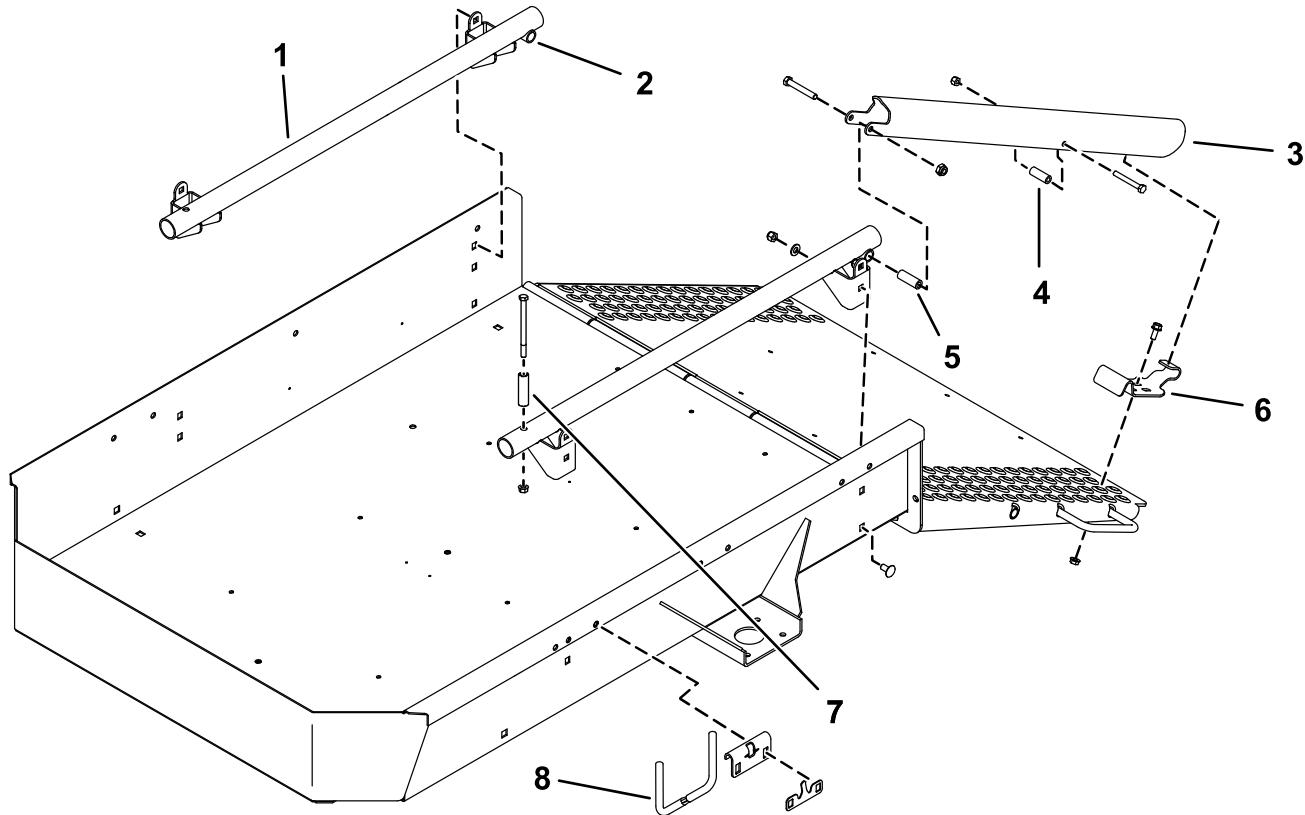
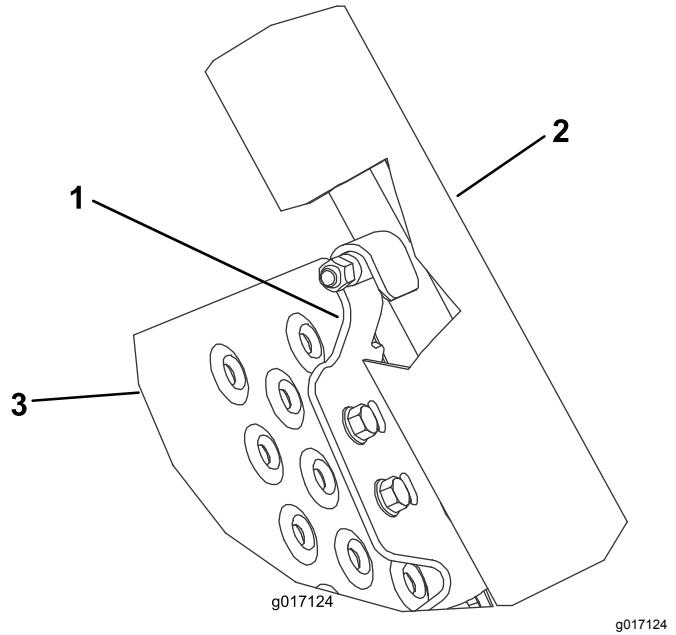

Figure 2
Figure 4
5. Secure the tube assembly mounting brackets to the square holes in each side of the trailer with 4 carriage bolts, flat washers and locknuts (Figure 2). Position the tube assemblies so that the cross tubes are to the rear.
6. Mount a load ramp to the rear of each tube assembly with a 3/6 x 2-1/2 inch capscrew, spacer, and locknut (Figure 2).
7. Install a hex-head screw through each of the center holes in the load ramps and through the 2 rubber tubes (Figure 4).
8. Position a locking bracket onto each side of the ramp so they align with the underside of the load ramps, engage with the coated pins in the load ramps and aligns with the holes in the ramp (Figure 2 and Figure 4). Only one set of the mounting holes is used per locking bracket.
9. Loosely mount each locking bracket to the ramp with 5/16 x 3/4 inch flange head screws and flange nuts (Figure 2 and Figure 4).
10. Raise and lock the ramp. Adjust the locking brackets so they are engaged on the pins and tighten the flange screws and nuts (Figure 2 and Figure 4).
11. Mount the narrow wheel rods pointed upward to the mounting holes in each side of the trailer, using the brackets and fasteners removed in step 4 (Figure 2).